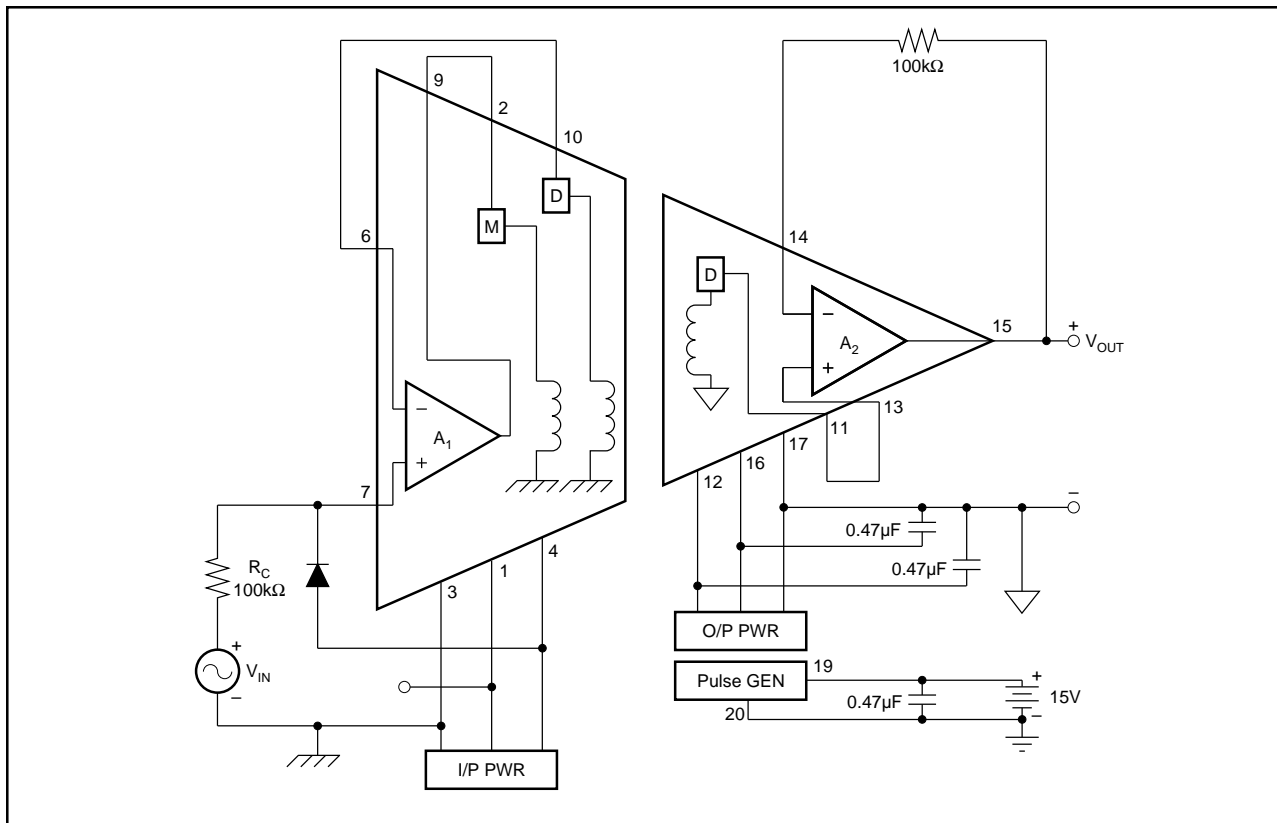

FIGURE 2. Power: Three-Port Isolation; Signal: Unity-Gain Noninverting.
5. The input voltage at pin 7 (noninverting input to A_1) must not exceed the voltage at pin 4 (negative supply voltage for A_1) in order to prevent a possible lockup condition. A low leakage diode connected between pins 7 and 4, as shown in Figure 2, can be used to limit this input voltage swing.
NOTE: Figures 2, 3 and 4 are used to illustrate both signal and power connection configurations. In the circuits shown, the power and signal configurations are independent so that any power configuration could be used with any signal configuration.
The power supply connections in Figure 2 show the full three-port isolation configuration. The system has three separate grounds with no galvanic connections between them. The two external $0.47\mu\text{F}$ capacitors at pins 12 and 16 filter the rectified isolated voltage at the output stage. Filtering on the input stage is provided by internal capacitors. In this configuration continuous isolation voltage ratings are: 3500V between pins 3 and 17; 3500V between pins 3 and 19; 1000V between pins 17 and 19.
The signal path portion of Figure 2 shows the 3656 in its simplest gain configuration: unity gain noninverting. The two $100k\Omega$ resistors provide balanced resistances to the inverting and noninverting inputs of the amplifiers. The diode prevents latch up in case the input voltage goes more negative than the voltage at pin 4.